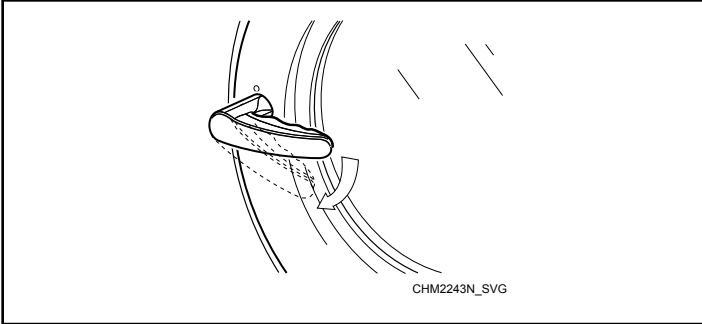

Figure 40
2. Turn handle clockwise to open. Refer to *Figure 40*.